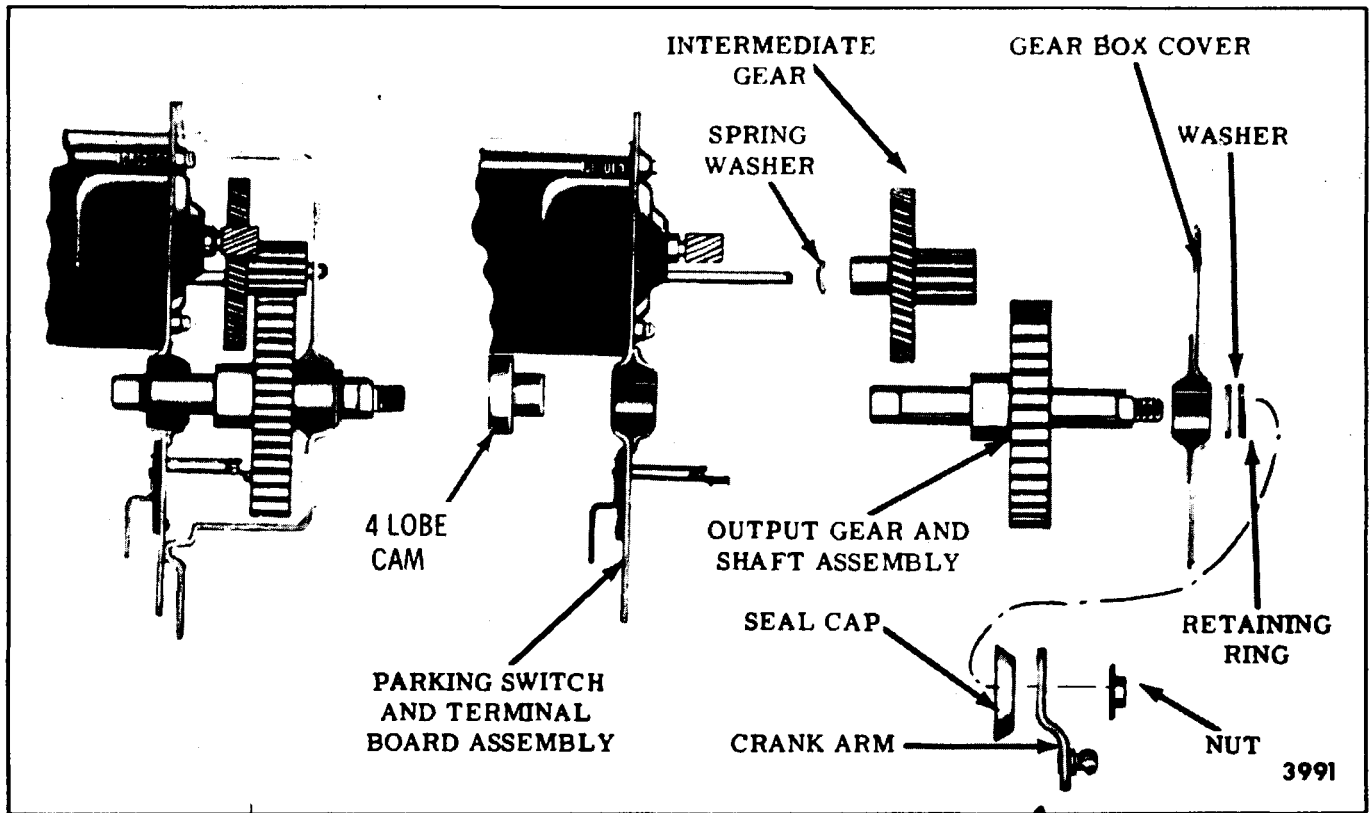

Fig. 2-10-Gear Box
and pinion drives an output gear and shaft assembly (Fig. 2-10). A rectangular motor application chart is shown in Fig. 2-1.
3. Remove crankarm, seal cap, Tru-Arc retaining ring and end play washers (Fig. 2-10).
6. Reassemble end play washers and retaining ring over output gearshaft (Fig. 2-10). Use end play washers as required to obtain .005" maximum end play.
1. Support crankarm end of wiper output shaft (threaded end) and using a suitable mallet, drive the four lobe cam on the wiper output shaft until it bottoms against the shoulders of the shaft flats (Fig. 2-10).